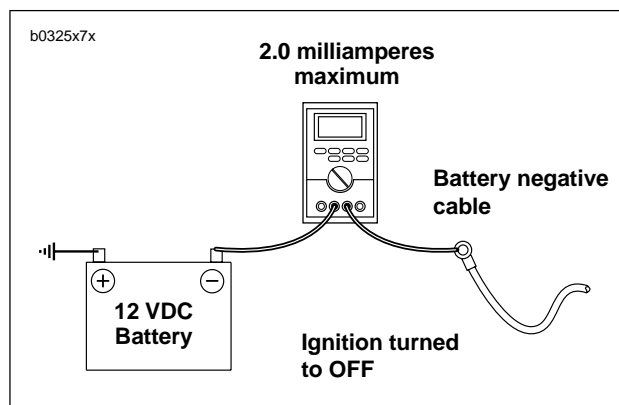

Figure 7-26. Milliampere Draw Test
- See Figure 7-26. Connect ammeter between negative battery terminal and battery. With this arrangement, you will also pick up any regulator drain.